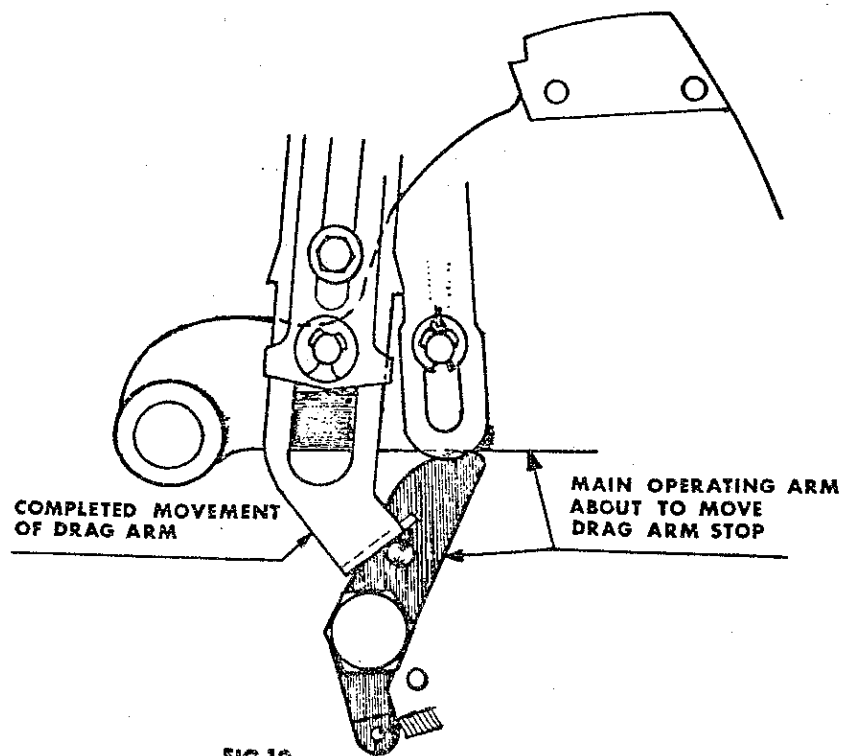

FIG.10
5. Wear on the underside of the Main Operating Arm caused by the incorrect setting of the Throat Drag Arm. This causes continual rubbing of the Main Operating Arm on the Drag Arm Stop. When set correctly the Main Operating Arm should NOT touch the Drag Arm Stop until it has travelled to the position shown in Fig. 10.